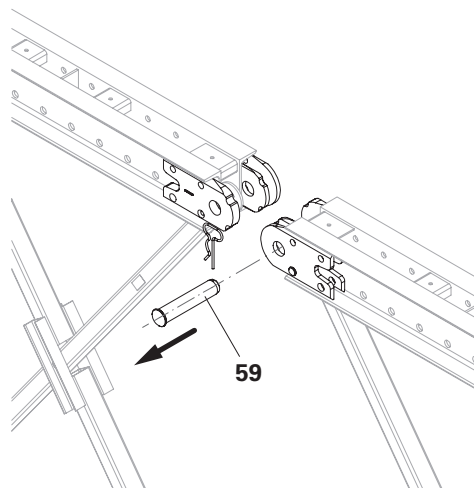

Fig. G3.04
3. Remove the connecting bolts (**59**) from the adjacent frame element. (Fig. G3.04 – G3.05)
(Fig. G3.04)